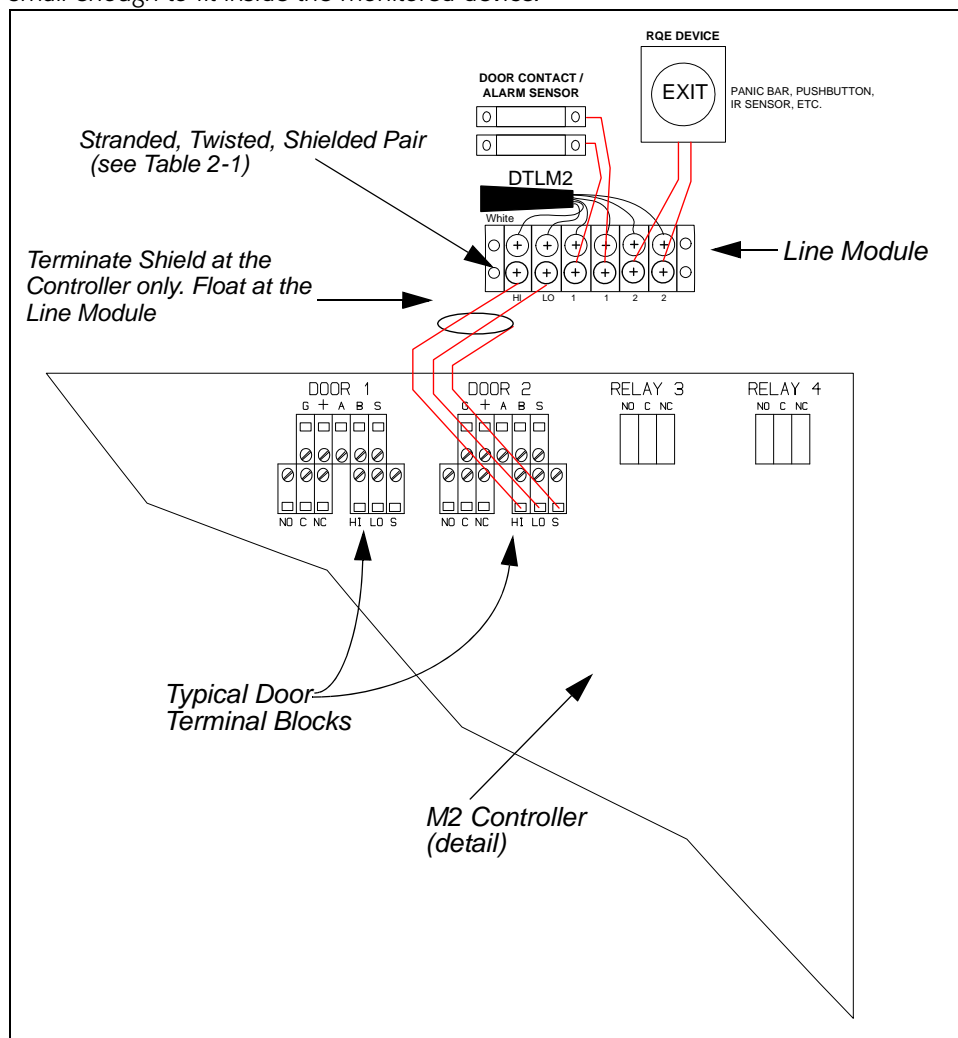

Figure 63: Typical Line Module Input Connection
6. Remove excess insulation from the wire and insert the specified wires into the green connectors at the required slots, as shown in Figure 63 on page 81.